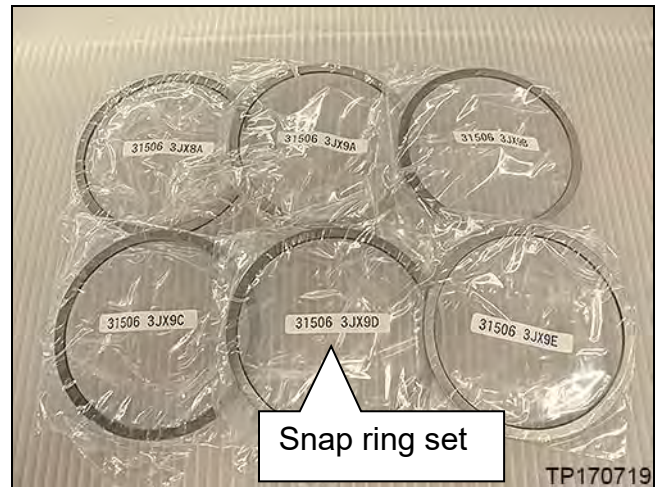

Figure 4N
4. Locate the plastic bag which contains the snap rings (Figure 4N).